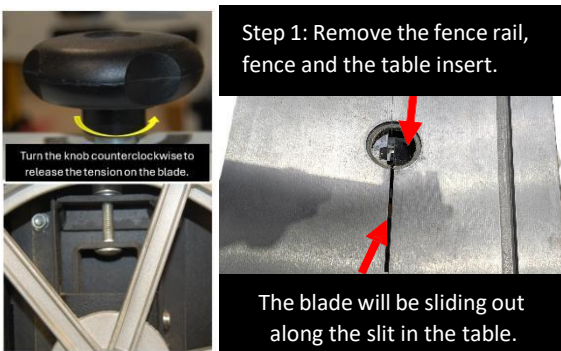

Figure 14: removing the rail and table insert.
- 7- **Align the Blade** Give the upper wheel few turn by hand to see if the blade is tracking correctly. If the blade isn't tracking correctly use the knob at the rear of the saw to align it. See figure 14.